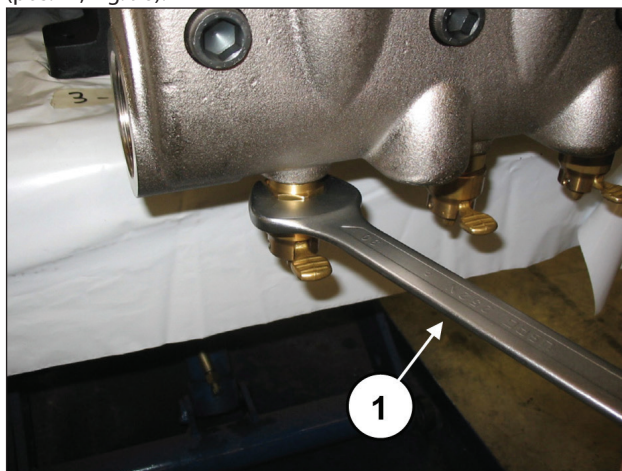

Fig. 96
Unscrew the valve opening device using a 30 mm wrench (pos. ①, Fig. 96).